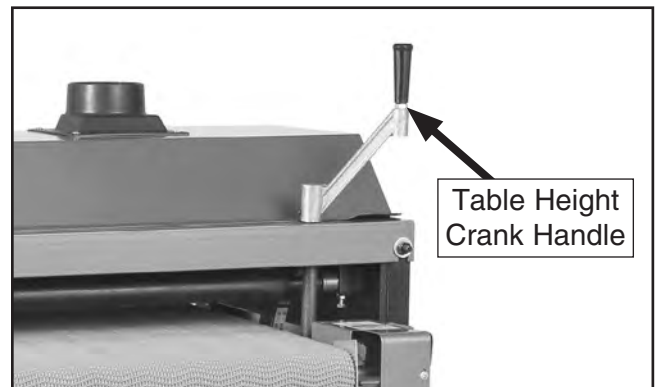

Figure 24. Location of table height crank handle (G1066R shown).
1. Rotate table height crank handle (see **Figure 24**) until table is too low, then raise table, allowing a gap between workpiece and sanding drum.